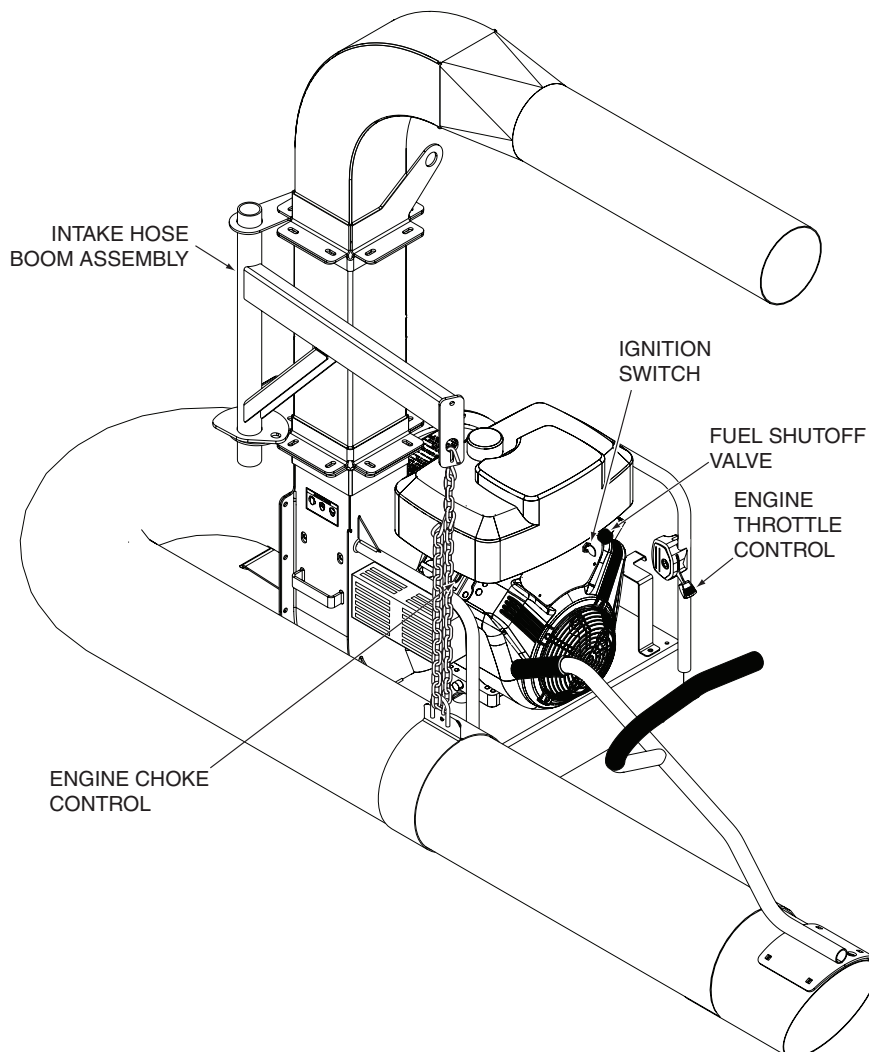

Figure 4-1. Controls and Instruments - TLH Model Shown
1. **Ignition Switch (Figure 4-1).** The ignition switch is used to start the engine and has three positions; OFF, ON, and START.
2. **Engine Throttle Control (Figure 4-1).** Used to control the engine speed. Pushing the lever down increases engine speed. Pulling the lever up decreases engine speed. Full up position is the IDLE position.
3. **Engine Choke Control (Figure 4-1).** Used to start a cold engine.
4. **Fuel Shutoff Valve (Figure 4-1).** Located under the fuel tank. Used to shut off fuel supply to the engine. Rotate the valve counter clockwise to supply fuel. Rotate the valve clockwise to shut off fuel supply.
5. **Intake Hose Boom Assembly (Figure 4-1).** Used to support the intake hose. The support chain can be raised or lowered until the intake nozzle floats 2-3 inches from the ground to help make operation easy and comfortable.
2. Be sure the fuel shutoff valve, located under the fuel tank, is completely open. See Figure 4-1.